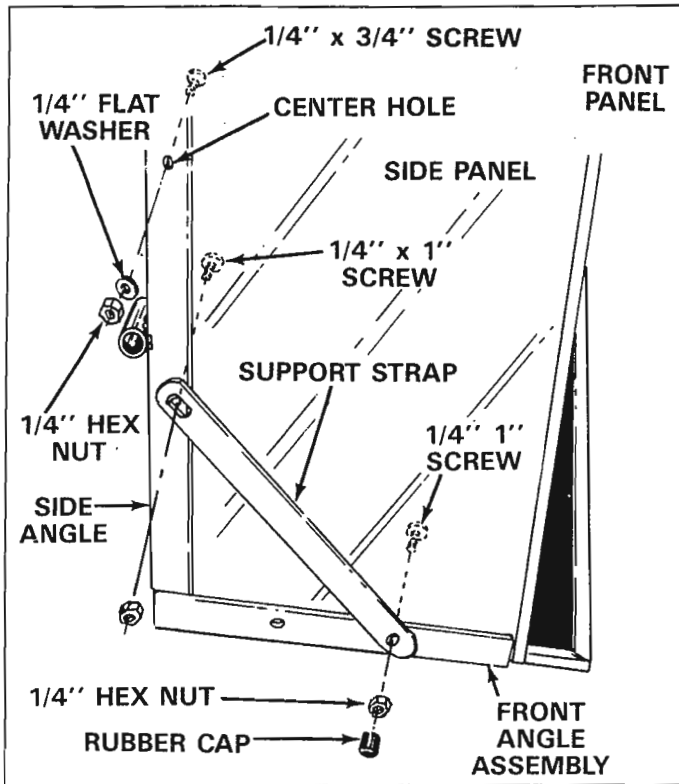

FIGURE 6
- Place one side panel in position, against side angle and down on top of front panel. Start one $1/4'' \times 3/4''$ truss head screw through the center hole in side panel and side angle. Secure with hex nut and flat washer. See figure 6. **Make only finger tight at this time.**
- Start one $1/4'' \times 1''$ truss head screw through front hole on side panel and side angle. Start another $1/4'' \times 1''$ truss head screw through top hole on side panel and front angle assembly, next place support strap over these two screws, secure with hex nuts and cover threads of top screw with a rubber cap. See figure 6. **Make only finger tight at this time.**